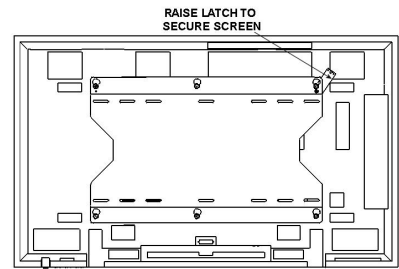

Figure 5
4. With the aid of another person, lift the display up to the mount, align the mounting buttons on the display with the teardrop slots in the mount, and set the display into place (see Figure 5).